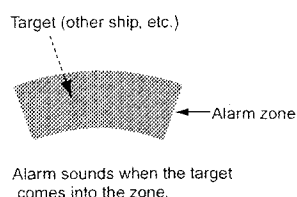

Fig. 3
- ① Push [MENU] to call up the FUNCTION menu.
- ② Push [v] until the "ZONE ALARM" section becomes highlighted.
- ③ Push [<]/[>] to select IN or OUT
- IN : Alarm sounds when the target comes into the zone. (see Fig. 3)